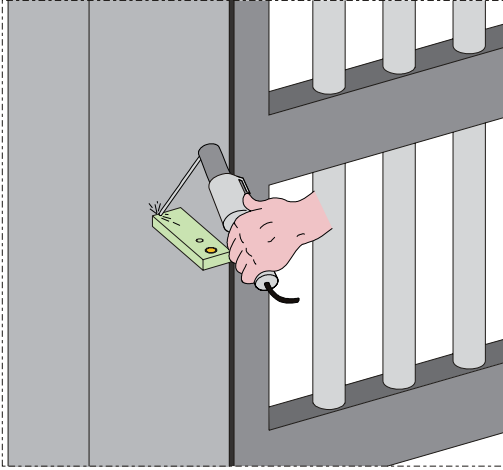
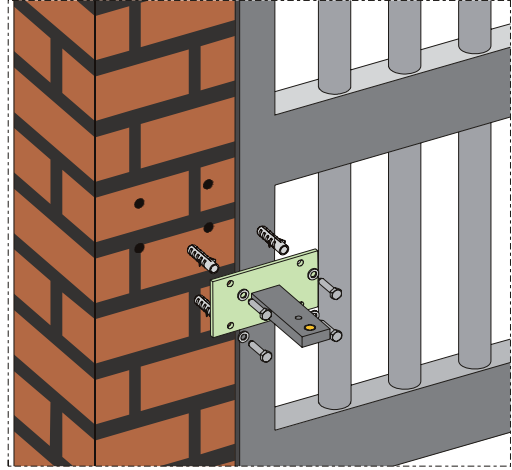

Fig. 6
Fig. 7
1) Fix the rear bracket in the position determined before. In the event of iron pillar carefully weld the bracket directly on the pillar (Fig.6). In the event of masonry pillar, use the suitable plate (optional) for the fixing to screw (Fig.7) by making use of suitable fastening systems. Then carefully weld the bracket to the plate.